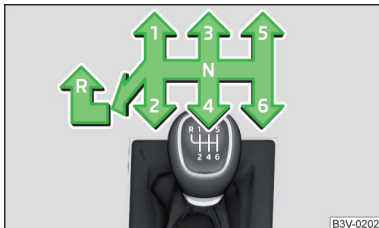

Fig. 262
The gearshift pattern for the individual gear positions is shown on the gear lever » Fig. 262.
- › Push the shift lever downwards fully to the left and then forward into **R** » Fig. 262.